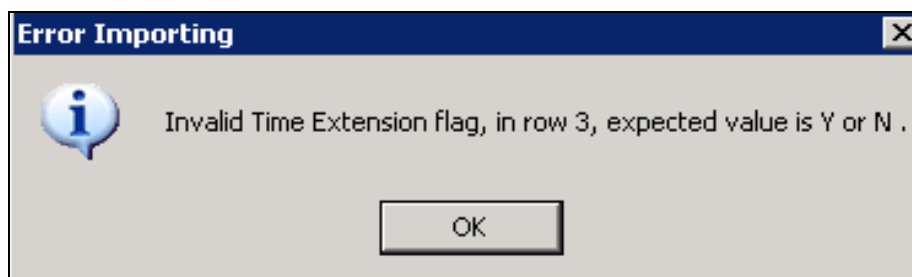

Figure 11-71: Invalid Time Extension flag message
16. When attempting to import the spreadsheet the system returned the following message (Figure 11-71). The entry will need to be changed to N before the spreadsheet can be imported.